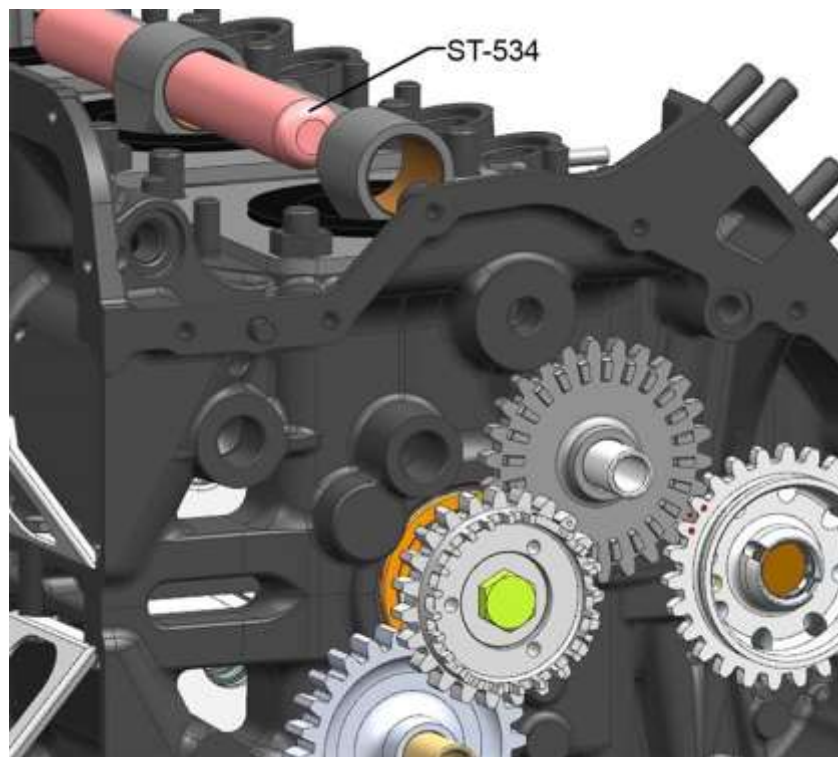

Figure 104
- F. Insert the Crankshaft Locking Tool (ST-534) through the connecting rod for cylinder number 4 and against the Torque Plate (ST-222) as shown in Figure 104. The Crankshaft Locking Tool prevents the crankshaft from turning while the crankshaft gear bolt is torqued.